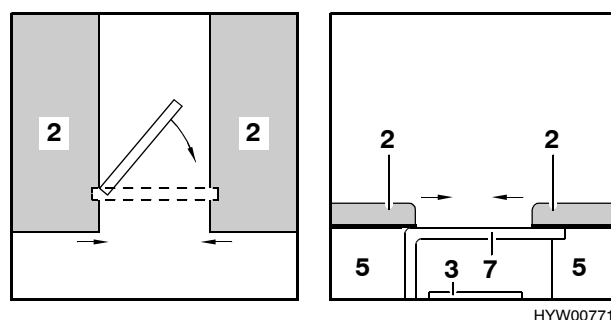

Fig. 44 During conversion
- Release bed leg (Fig. 44,7) and turn it a quarter turn.
- Ensure that the bed leg is correctly placed on the bedding box (Fig. 44,5) opposite.
- Lightly lift up the two seat cushions (Fig. 44,2) and pull them to the middle.